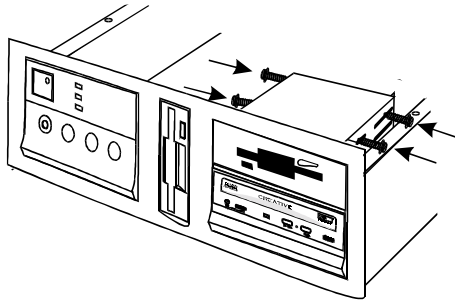

Figure 2-23: Fastening the drives to your system.
- Slide the drives back into place and fasten them to your system as shown in Figure 2-23.